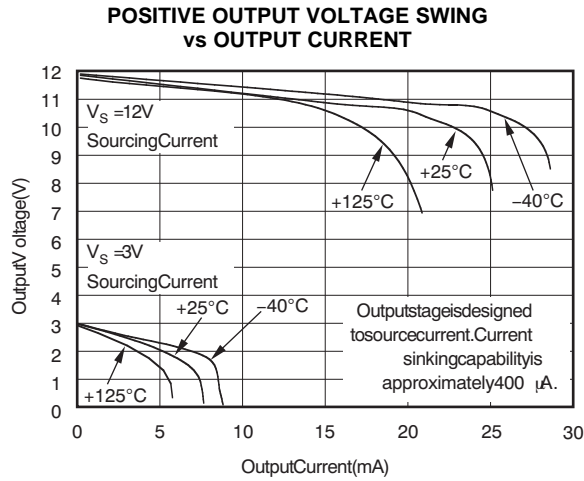

Figure 7.
(1) Total output error includes effects of gain error and V_{OS} .
(2) For details on this region of operation, see the *Accuracy Variations* section in the *Applications Information*.
(3) See Typical Characteristic curve *Output Swing vs Output Current*, *Figure 7*.
(4) Specified by design.